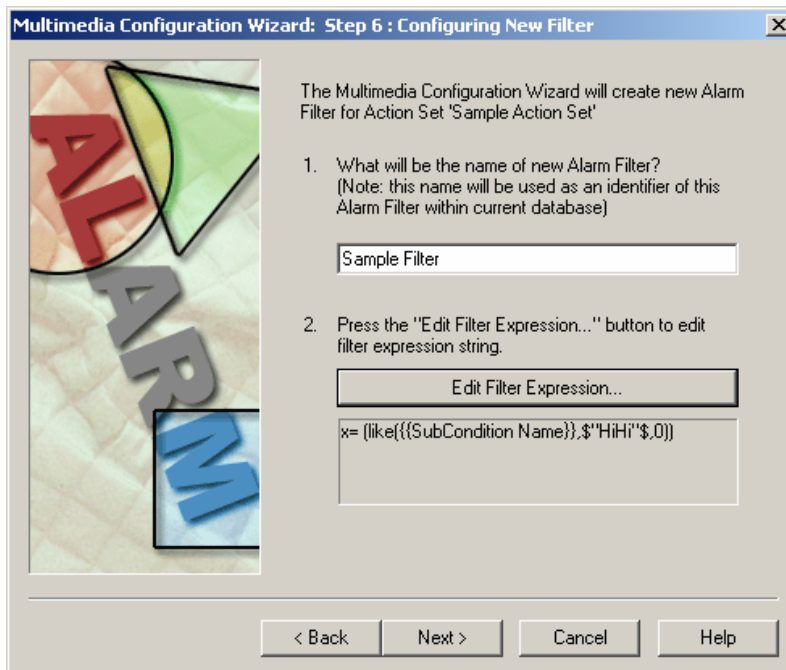

Figure 3.7. Step 6: Configuring the New Alarm Filter
- If you chose in Step 5 to create a new filter, you will be asked in Step 6 to enter a name and an expression for your filter, as shown in **Figure 3.7**. Click the **Edit Filter Expression...** button to launch the Expression Editor, which enables you to set up your alarm filters.